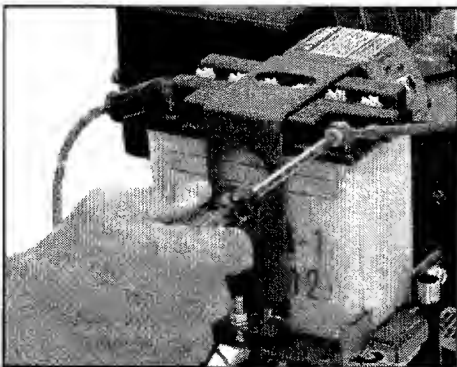

Figure 2-21: Attach negative (-) battery cable.
3. The negative battery cable is connected to the upper mounting screw that attaches the starter solenoid to the back of the battery post. This is the ground for the negative cable. Using the second screw and nut, attach the loose end of the negative cable to the negative (-) battery post. See Figure 2-21.